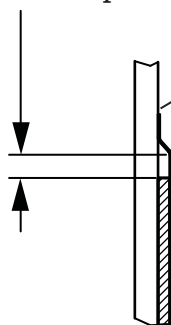

Figure 13
- 2) See **Figures 13 & 14**. Weld the leading edge protector to the sidewall of the trailer/body. For proper placement use the diagrams below.
! IMPORTANT: See **Figures 13 & 14**. Liner must be able to expand. A gap is required between the liner and the inside of the leading edge. 1" gap for normal loads 1-1/2" is required if asphalt will be hauled. If not enough gap is allowed the liner may be damaged.